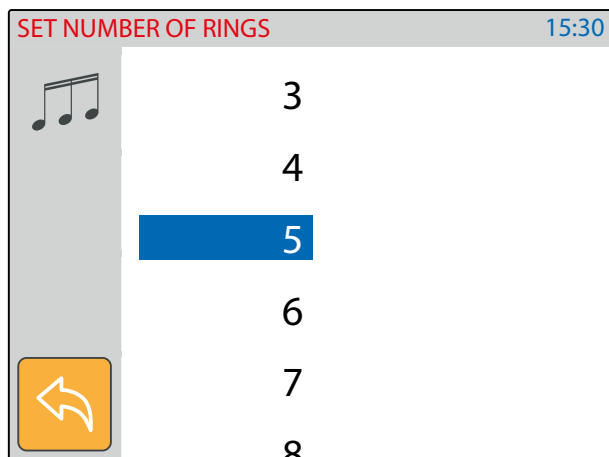

Fig. 11 Select the number of rings
- The current value is shown (Fig. 11).